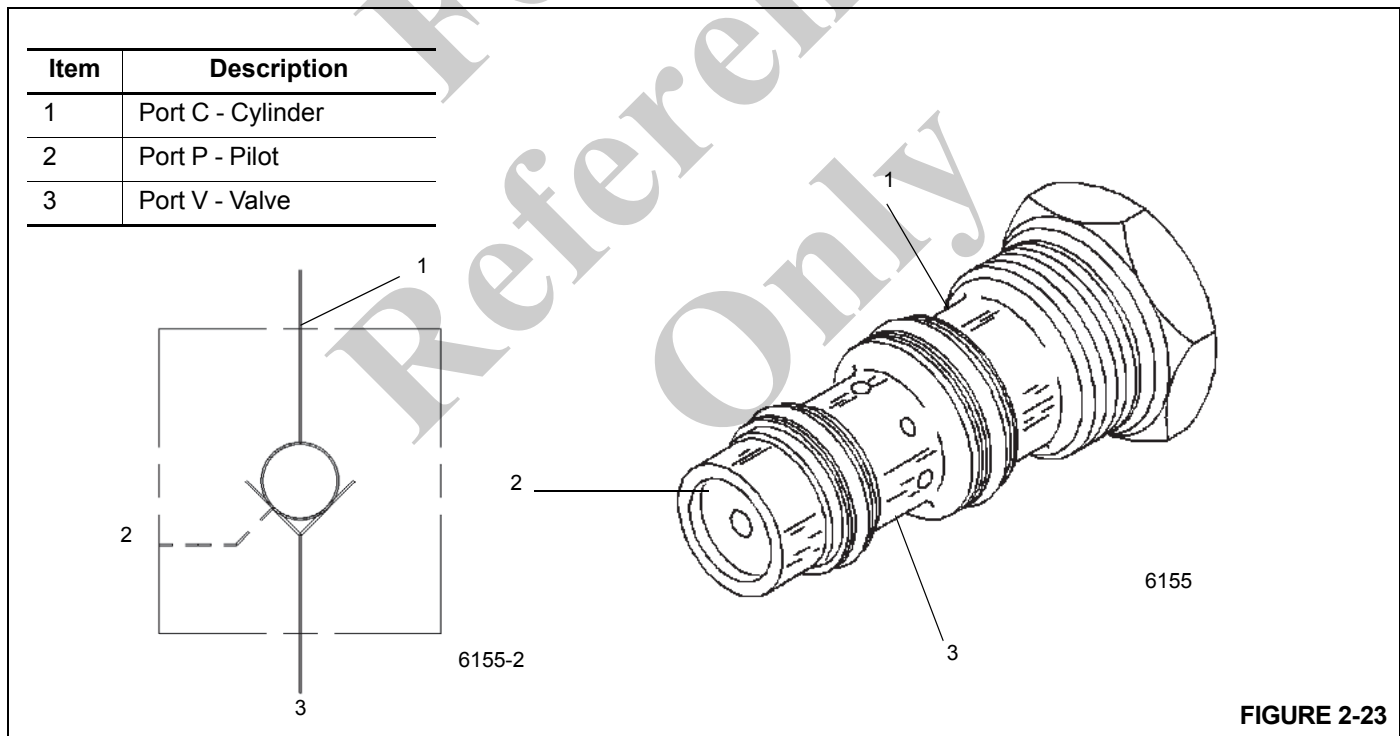

FIGURE 2-23
A pilot operated (PO) check valve is located in each outrigger jack cylinder port block. The check valve functions as a holding valve for the jack cylinder. Oil flow is directed from the “V” port to the “C” ports, while blocking flow in the opposite direction. Flow is reversed from “C” to “V” when pressure pilot oil is applied to the opposite side “V” port (Figure 2-23)